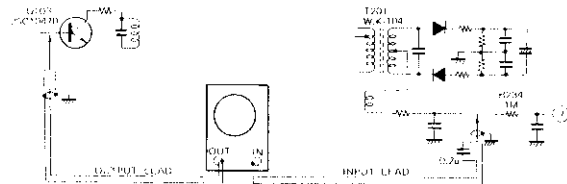
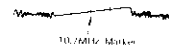

Figure 6
Figure 7
- (a) In condition of Figure 6, adjust vertical gain (80 dB ATT.) for approx. 1/3 height output wave form. Output wave form on the Interscope is as shown in Figure 7.